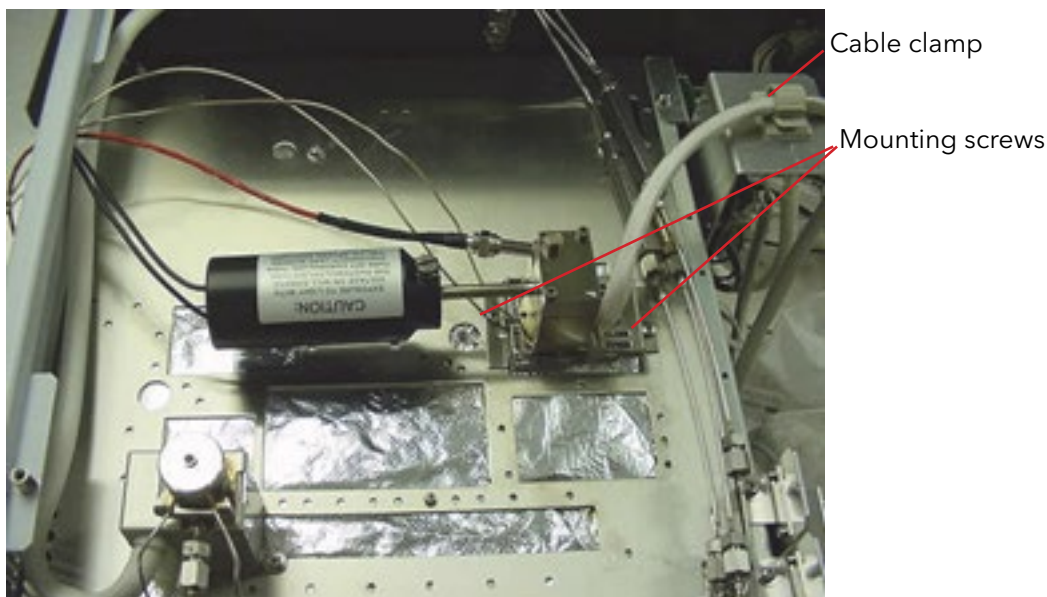

Figure 3.13. Mounting Screw Position
5. Attach the cable clamp (PN 321904, provided in startup kit) to the top of the GC bracket (as shown in Figure 3.13).
9. Attach the PFPD mounting plate to the GC top plate using the two screws provided in the startup kit (PN 169963). Use Figure 3.13 as a reference for the position of the mounting screws.